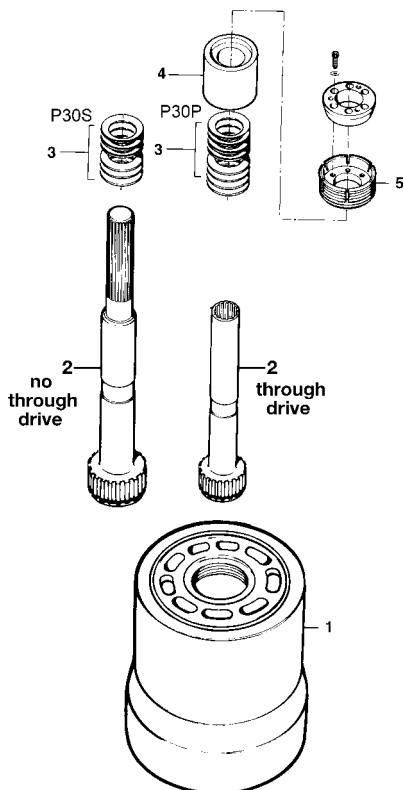

FIGURE 4.1
See figure 4.1. Install auxiliary shaft (2) large spline end first into counterbore in face of barrel and engage barrel spline.
PARTS LIST FOR FIGURE 4.1 (P30)